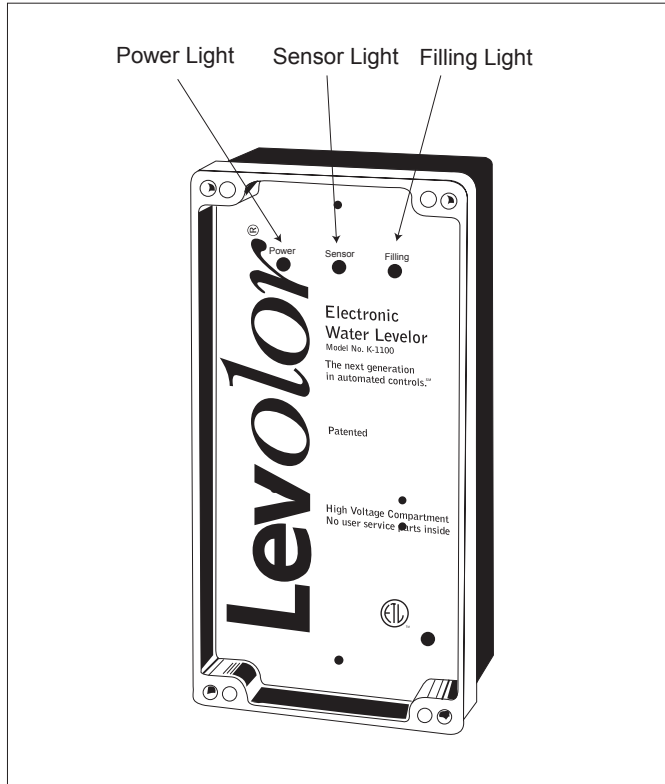
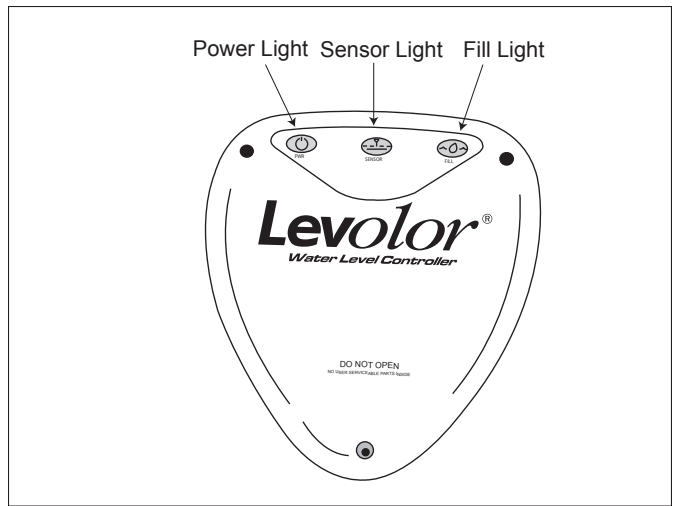

Figure 22. K-1100 and LEV110CK/2G Controller Lights
Figure 23. LX2 Controller Lights
The controllers for the K-1100 and LEV110CK/2G (See Figure 22) and the LX2 (See Figure 23) each have three (3) lights. Refer to the figures and Table 1.